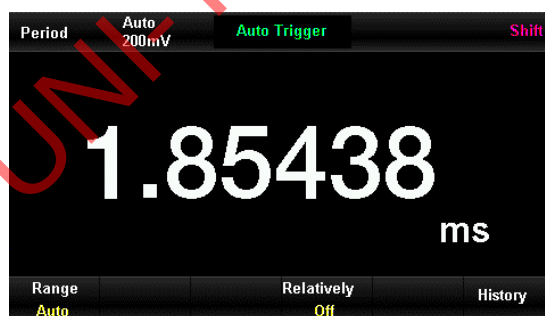

Figure 2-21 Interface of signal cycle measurement
1) Press **Shift** button and then press **Freq** button to enter interface of signal cycle measurement as Figure 2-21.